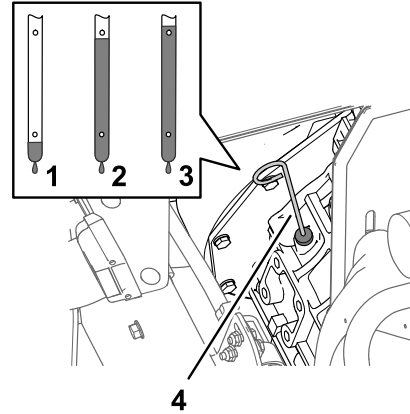

Figure 73
- Remove the dipstick, located under the passenger seat, and wipe it with a clean rag (Figure 73).